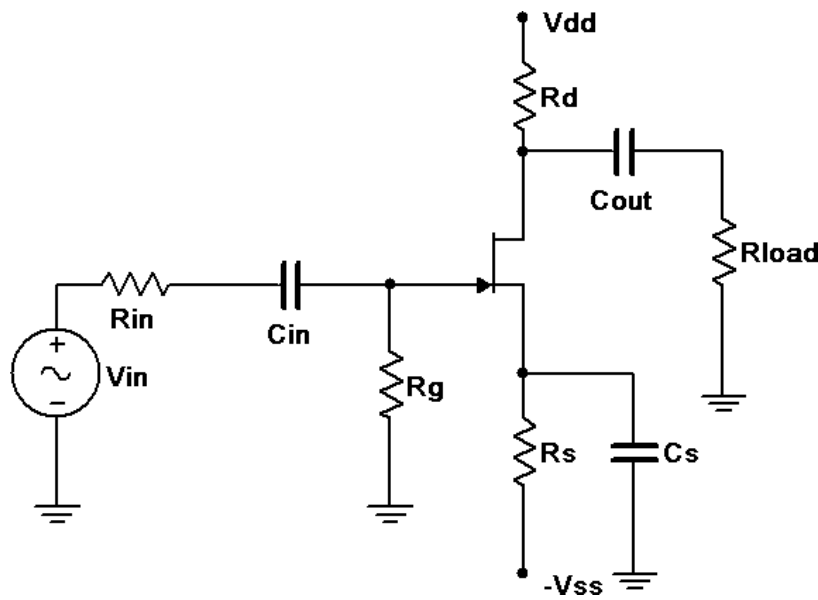

Figure 1
1. Consider the circuit of Figure 1 using  $V_{dd} = 15$  volts,  $V_{ss} = -3$  volts,  $R_{in} = 33 \text{ k}\Omega$ ,  $R_g = 330 \text{ k}\Omega$ ,  $R_s = 4.7 \text{ k}\Omega$ ,  $R_d = 4.7 \text{ k}\Omega$ ,  $R_{load} = 22 \text{ k}\Omega$ ,  $C_{in} = C_{out} = 10 \text{ }\mu\text{F}$  and  $C_s = 470 \text{ }\mu\text{F}$ . Assuming  $V_{GS} = -2$  volts and  $g_m = 2 \text{ mS}$  (4 mS if using the J112), determine the theoretical gain and input impedance of the circuit and record these in Table 1.
2. Build the circuit of Figure 1 using  $V_{dd} = 15$  volts,  $V_{ss} = -3$  volts,  $R_{in} = 33 \text{ k}\Omega$ ,  $R_g = 330 \text{ k}\Omega$ ,  $R_s = 4.7 \text{ k}\Omega$ ,  $R_d = 4.7 \text{ k}\Omega$ ,  $R_{load} = 22 \text{ k}\Omega$ ,  $C_{in} = C_{out} = 10 \text{ }\mu\text{F}$  and  $C_s = 470 \text{ }\mu\text{F}$ . Set  $V_{in}$  to a 100 mV peak sine at 1 kHz. Measure the voltages at the gate and load, and record these in Table 1. Capture images of the input and gate voltages, and the gate and load voltages. Note whether